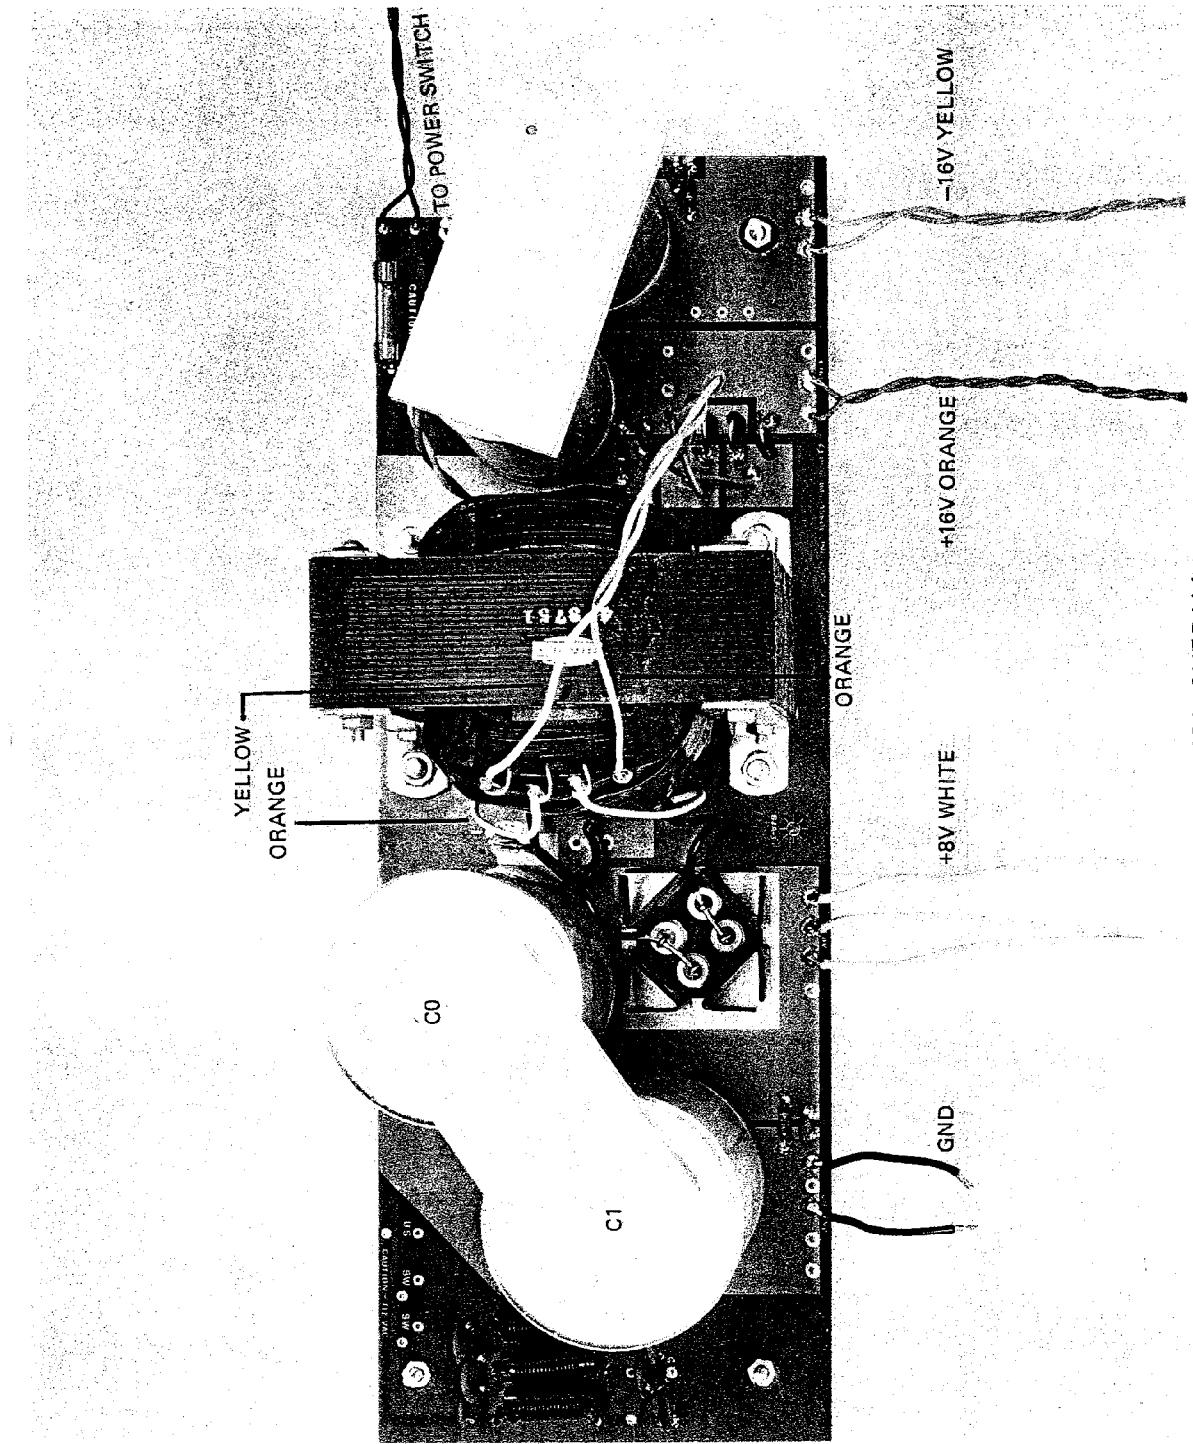

FIGURE 1 PS-28D OVERALL
- 8) Insert and solder each of the two fuse clips in locations as shown on the Assembly Diagram. See Figure 1 for classification. Snap in the fuse.
- 9) Solder a yellow and an orange wire to the transformer lugs numbers 1 and 3 for AC. Wires should be twisted together. Solder twisted pair ends to the PSC board as shown in Figure 1.
14) Solder the other end of the short wire used above to the ground trace below terminal number 8 (see Figure 1 for clarification).